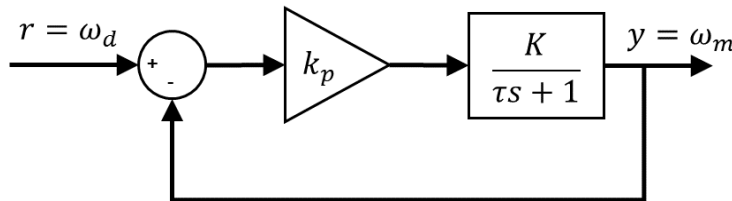

Figure 1.3: Proportional control of servo speed
As shown by the block diagram in Figure 1.3, here $r(t) = \omega_d(t)$ is the reference angular velocity, $y(t) = \omega_m(t)$ is the measured angular velocity, and $u(t) = v_m(t)$ is the control input (applied motor voltage).
- Find the closed-loop transfer function $E(s)/R(s)$ in Figure 1.3 that represents the dynamics between a desired angular rate, $R(s) = \Omega_d(s)$, and the error, $E(s) = R(s) - Y(s) = \Omega_d(s) - \Omega_m(s)$.